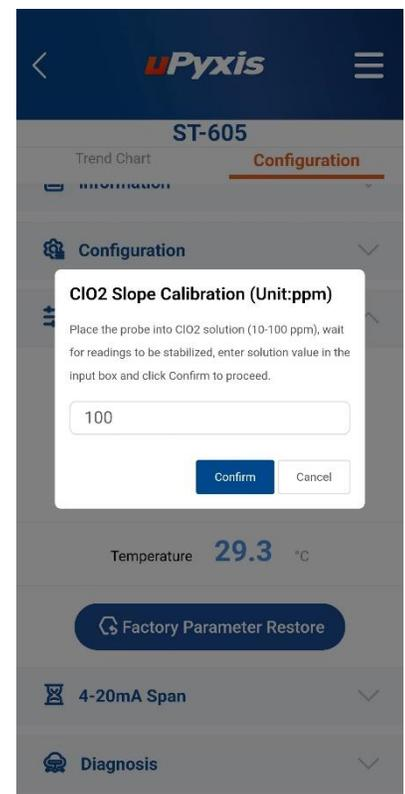

Figure 7.
1. After confirming sensor cleanliness as outlined above, place the sensor into a beaker containing deionized (DI) water.
5. Once the displayed CLO2 and temperature values are stable, click Slope Calibration to carry out the slope calibration. Tap **SLOPE CALIBRATION** in the uPyxis app. Enter the CLO2 concentration (10-100 ppm) in the dialog window as in *Figure 7*.